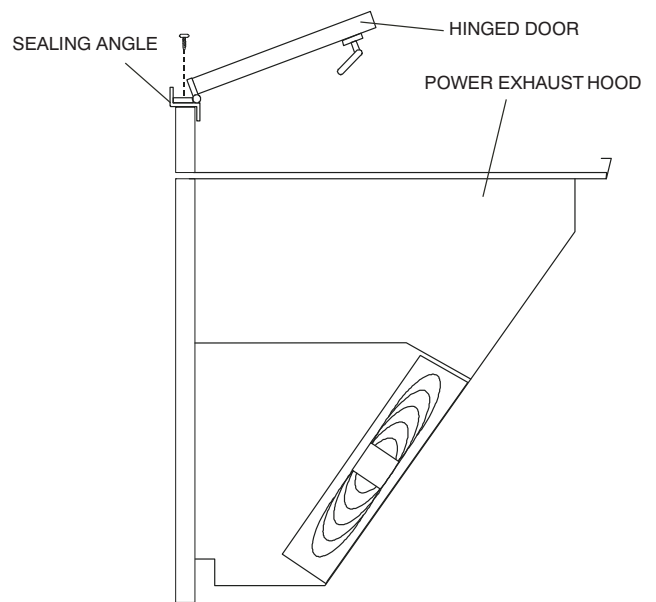

Fig. 15 - Re-Install the Hinged Door
7. Place the door and hinges back on the unit. Screw through the door hinges and sealing angle into the flanged top of the hood using the 4 screws set aside when the hinged door was removed. (See Fig. 15.)